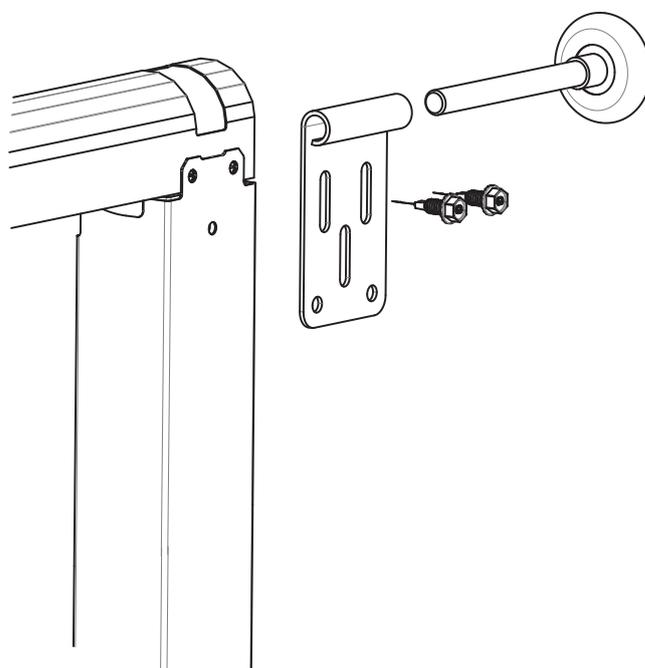

Fig: 2.2.6
- i) Attach the top hangers to the top corners of the panel, using the vertical slots only. Fig 2.2.6.